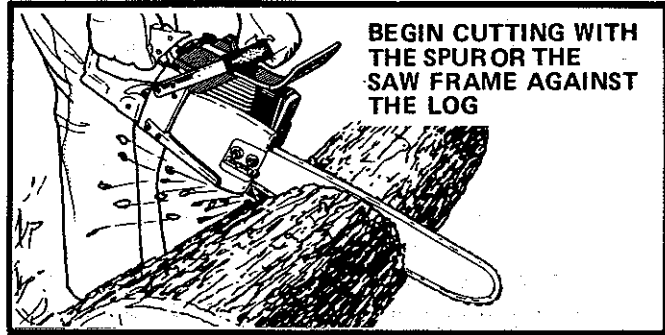

Figure 18
- b. **Begin cutting with the saw frame or spur against the wood.** Figure 18.